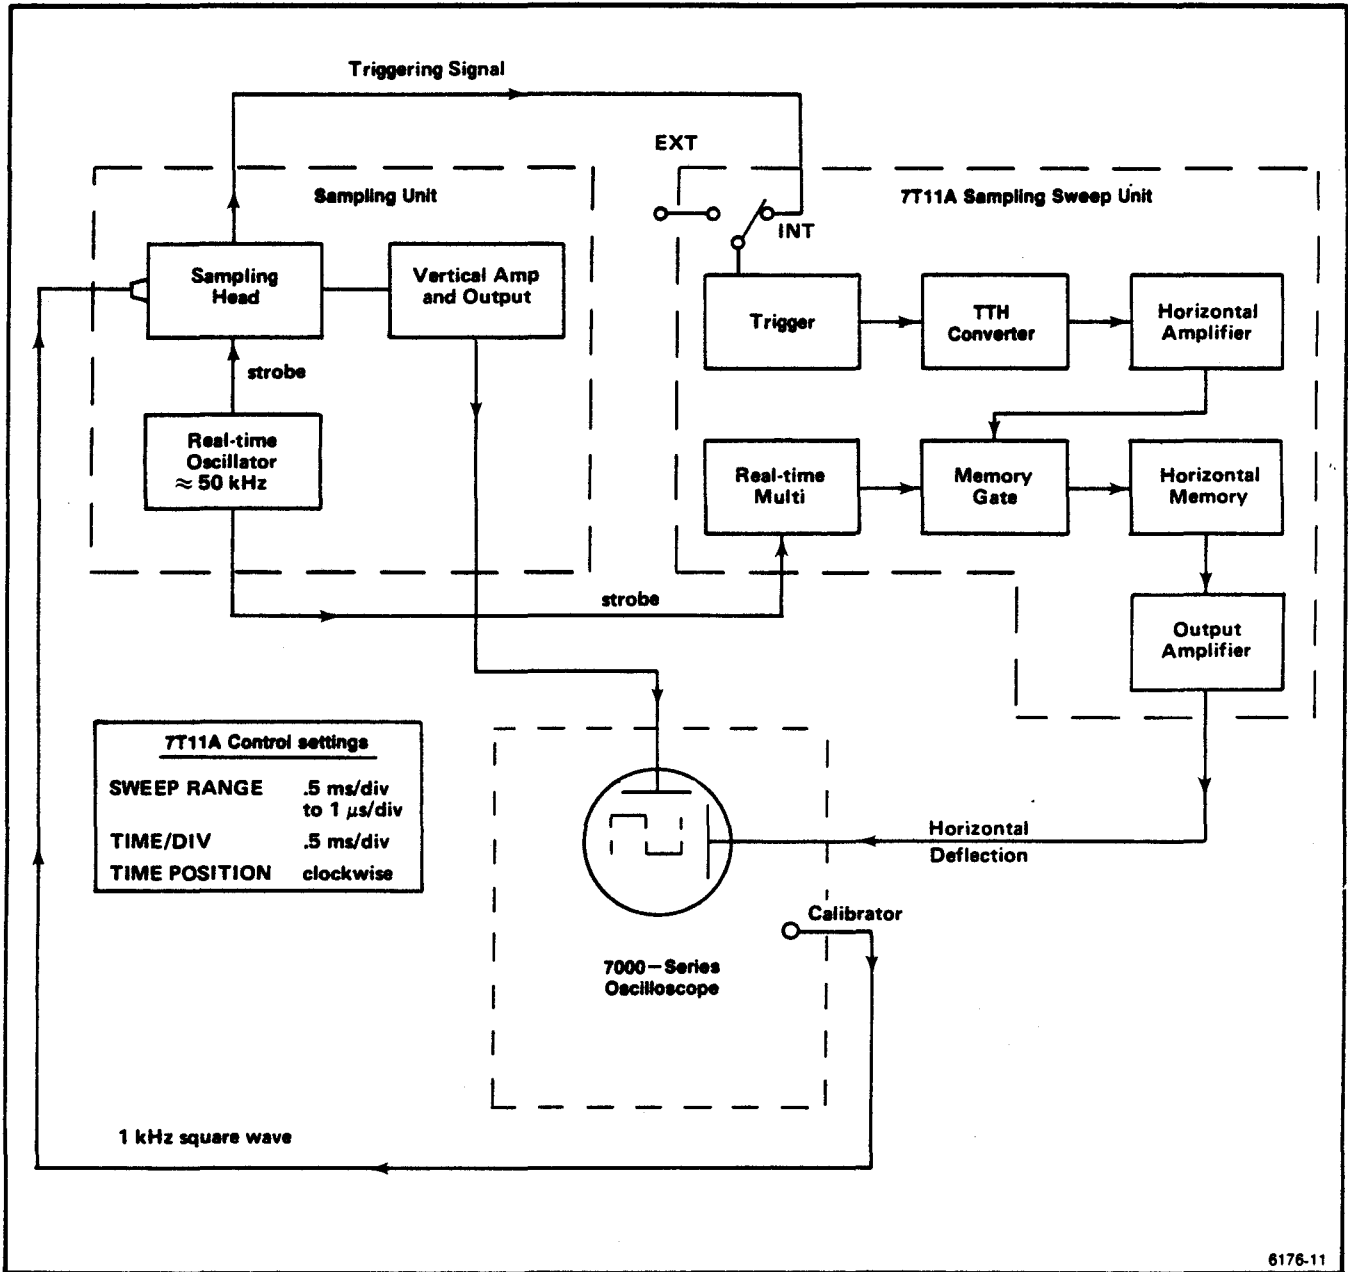
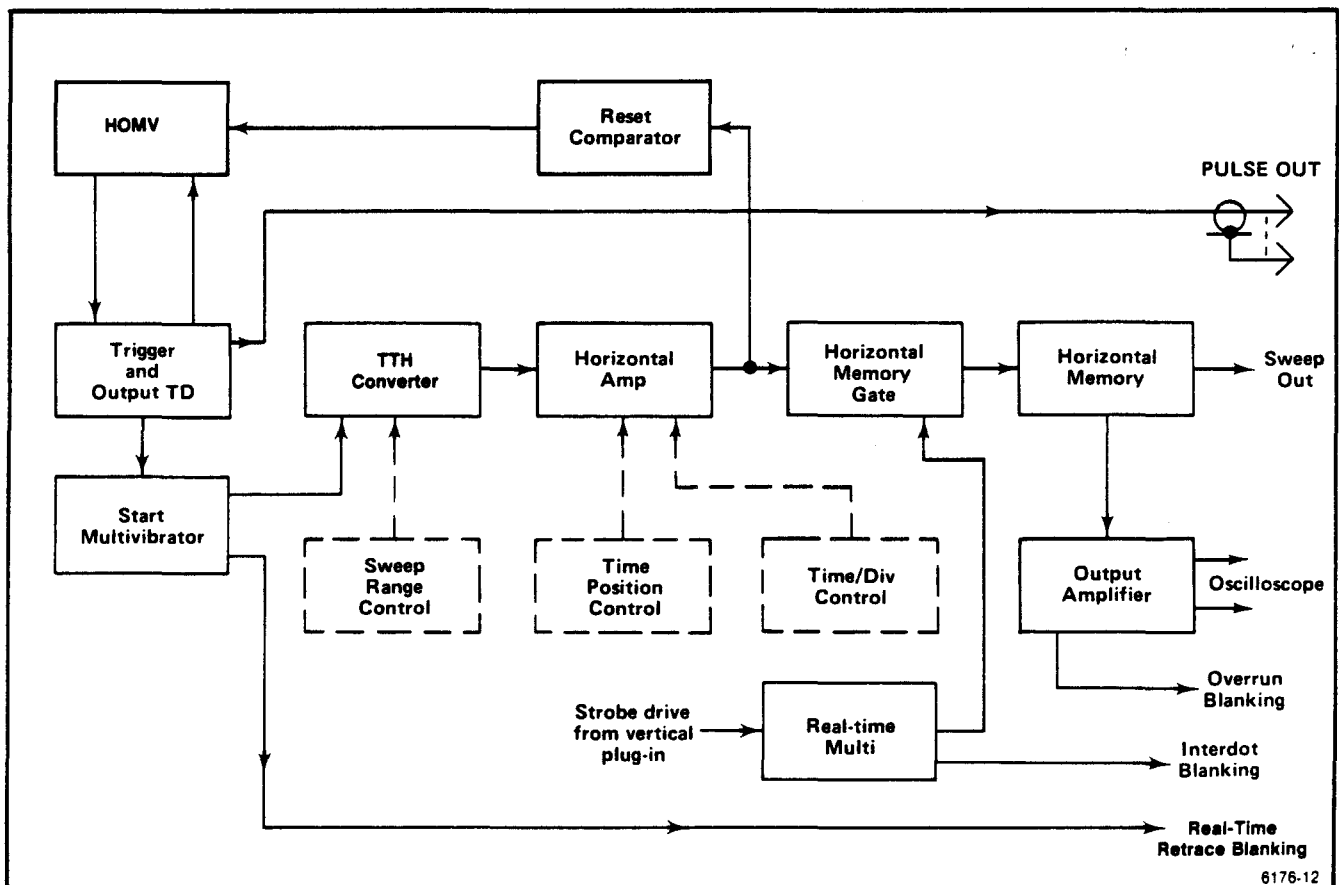
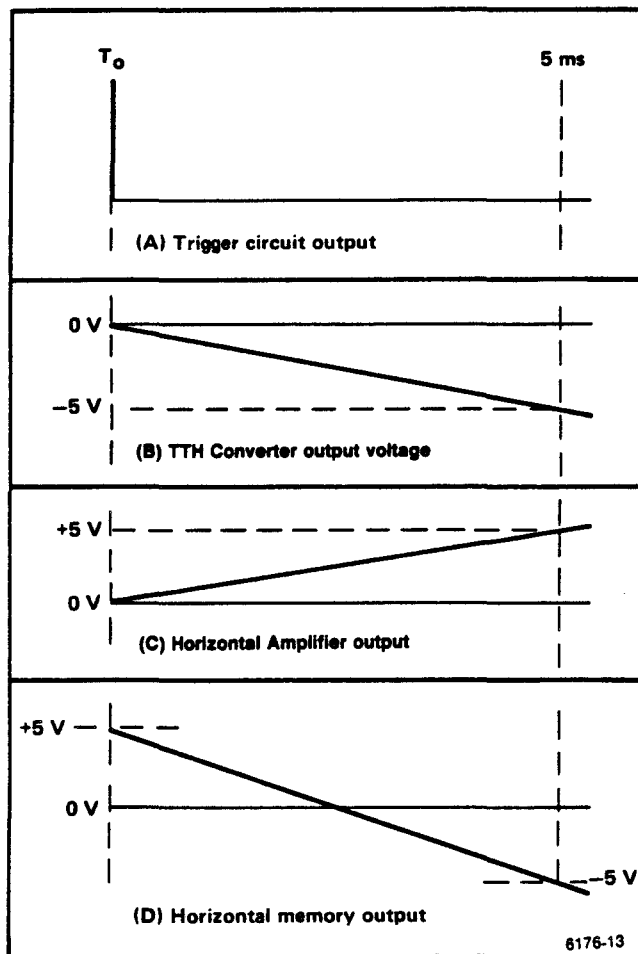

Figure 3-1. Simplified block diagram of a sampling system using the 7T11A as a Real-time Sweep Unit.
Figure 3-2. 7T11A complete block diagram for Real-time sampling.
Figure 3-3. Circuit waveforms at control settings shown in Figure 3-1.
In Figure 3-1, the Trigger, TTH Converter, and Horizontal Amplifier serve the same purpose as the Trigger, Sweep Generator, and Horizontal Amplifier circuits in a conventional horizontal sweep unit. The function of these blocks will be discussed first.
A ramp amplitude of 10 volts is required at the output of the Horizontal Memory to produce 10 divisions of horizontal deflection on the CRT. The 10-volt ramp at the Horizontal Memory output is fed to the Output Amplifier. The Output Amplifier prevents loading of the Horizontal Memory circuit and changes the single-ended output of the Horizontal Memory to the push-pull horizontal drive signal required by 7000 series-oscilloscopes. The 10-volt output of the Output Amplifier is delivered to a Horizontal Interface board in the oscilloscope, and then to the CRT horizontal deflection plates. If either output of the Output Amplifier exceeds +5 volts the Overrun blanking circuit (now shown in Figure 3-2) is enabled, preventing display of the overrun portion of the sweep.
The 10-volt change at the Horizontal Memory output must occur in 5 ms in order for timing to be correct at the TIME/DIV setting shown in Figure 3-1. Figure 3-3 shows that the TTH Converter output voltage changes only 5 volts in 5 ms at the selected position of the SWEEP RANGE control. With the SWEEP RANGE and TIME/DIV settings given in Figure 3-1, the Horizontal Amplifier has a gain of 1. The fixed X2 gain of the Horizontal Memory provides the required rate of change of voltage. Since the TTH ramp continues to run negative after 5 ms from ramp start as shown in Figure 3-3, the Horizontal Amplifier output continues to run positive. This positive run is stopped by a reset circuit (not shown on Figure 3-1) when the Horizontal Amplifier Output voltage reaches approximately 5.2 volts.
Figure 3-3 shows that the rate of change of the ramp output of the Horizontal Memory is twice that of the ramp output of the Horizontal Amplifier. In addition to providing X2 gain, the Horizontal Memory inverts the applied signal and shifts its starting level from 0 volts to +5 volts. The output from the memory is not the perfect linear ramp it appears to be in Figure 3-3D. The voltage change from +5 volts to -5 volts is accomplished in 250 steps of 40 millivolts each.
plied to the Memory Gate. The action of the Memory Gate changes the linear ramp at the Horizontal Amplifier output to the staircase ramp appearing at the output of the memory. A  $3\ \mu\text{s}$  duration gating pulse is applied from the Real Time Multivibrator to the Memory Gate at intervals of  $20\ \mu\text{s}$ . The  $50\ \text{kHz}$  Real Time Oscillator, shown in Figure 3-1, controls the period of the Real Time Multivibrator and therefore determines the  $20\ \mu\text{s}$  interval between gating pulses. The CRT is blanked during the  $3\ \mu\text{s}$  gating pulse.
The basic block diagram for Real-Time (Figure 3-1) shows a system very similar to a standard real-time oscilloscope. The arrival of a trigger starts the timing ramp, or Time to Height (TTH) Converter. The 50 kHz Real-Time Oscillator supplies strobe pulse to the Real-Time Multivibrator every 20  $\mu\text{s}$ . When a strobe occurs, the Real-Time Multivibrator fires, causing the Memory Gate to conduct for about 3  $\mu\text{s}$ . The CRT is blanked by the Interdot blanking circuit during this 3  $\mu\text{s}$  period. The memory tracks along with the amplified TTH ramp until the gate quits conducting. The CRT is then unblanked and the memory voltage remains constant until the next memory gating pulse arrives approximately 17  $\mu\text{s}$  later. The width of the memory gating pulse sets the lead time of the instrument. During Real-Time sampling this lead time is about 3  $\mu\text{s}$ . For each triggering event, one sweep across the screen is produced. The display created during each sweep consists of a series of dots spaced at 20  $\mu\text{s}$  intervals. At the faster real-time sweep rates the number of dots displayed per sweep decreases.
Figure 3-2 shows a number of circuits and controls that did not appear in the basic block diagram of Figure 3-1. The additional circuit blocks are: Start Multivibrator, Reset Comparator, and HOMV (hold-off multivibrator). Operating controls shown on this block diagram are: SWEEP RANGE, TIME/DIV, and TIME POSITION.
The block labeled Trigger in Figure 3-1 is labeled Trigger and Output TD in Figure 3-2. This block represents all circuits through which the triggering signal passes before arriving at the Trigger Output tunnel diode. The time at which the trigger signal causes the Trigger Output TD to fire is referred to as trigger recognition or time  $t_0$ . The Trigger circuit switches the Start Multivibrator circuit, which in turn
**TIME/DIV Control.** Figure 3-2 shows that the TIME/DIV control operates on the Horizontal Amplifier block. Changing the setting of the TIME/DIV control changes the gain of the Horizontal Amplifier and thereby changes display magnification. Display magnification varies from X1 to X500 depending upon the location of the TIME/DIV setting within the window provided on the front panel control. Refer to Figure 2-6 in the Operating Instructions section of this manual.
**TIME POSITION Control.** Figure 3-2 shows that the TIME POSITION control also operates on the Horizontal Amplifier block. Essentially the TIME POSITION control delays the start of the magnified linear sweep delivered to the Horizontal Memory Gate. See Figure 3-6.
Figure 3-8 shows a simplified block diagram of circuits required for sequential equivalent-time operation of the 7T11A. Comparison of Figure 3-8 with the real-time block diagram shown in Figure 3-2 shows that the Reset Comparator and Real-Time Multivibrator are not used during equivalent-time operation.
Switching of HOMV section A causes the Horizontal Memory Gate to be turned on. The -2.5 volt level of the TTH ramp appears at the Horizontal Amplifier output as a +2.5 volt level, and at the Horizontal Memory output as a 0 volt output level. These voltage relationships are illustrated in Figure 3-3.